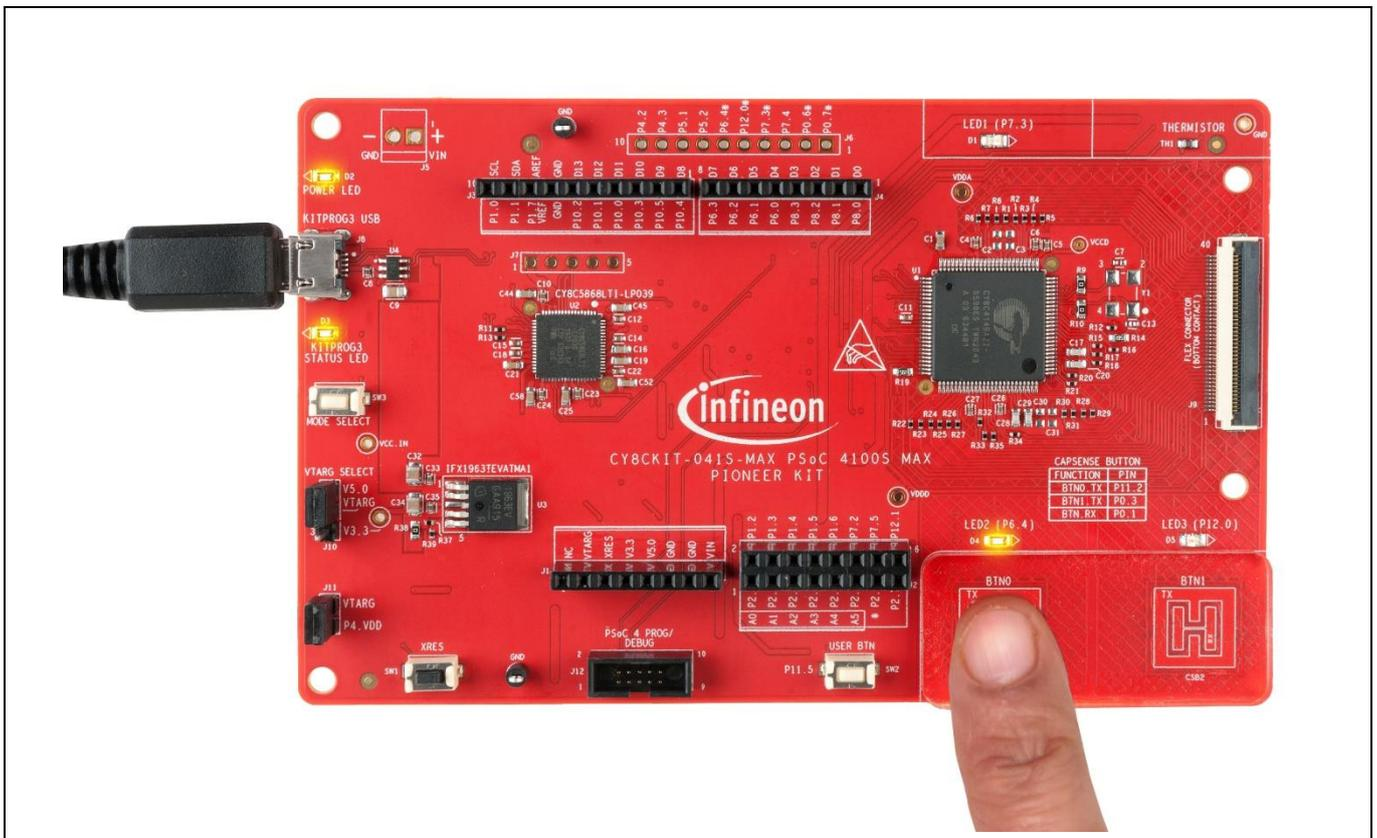

Figure 13 MSC CAPSENSE™ CSX button tuning project
2. Touch a CAPSENSE™ button and observe the corresponding LED turn ON as **Figure 13** shows.